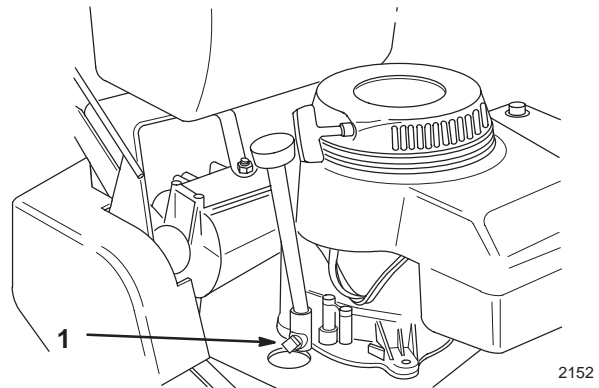

Figure 19
3. Place a pan below the oil drain. Remove the oil drain plug (Fig. 19).